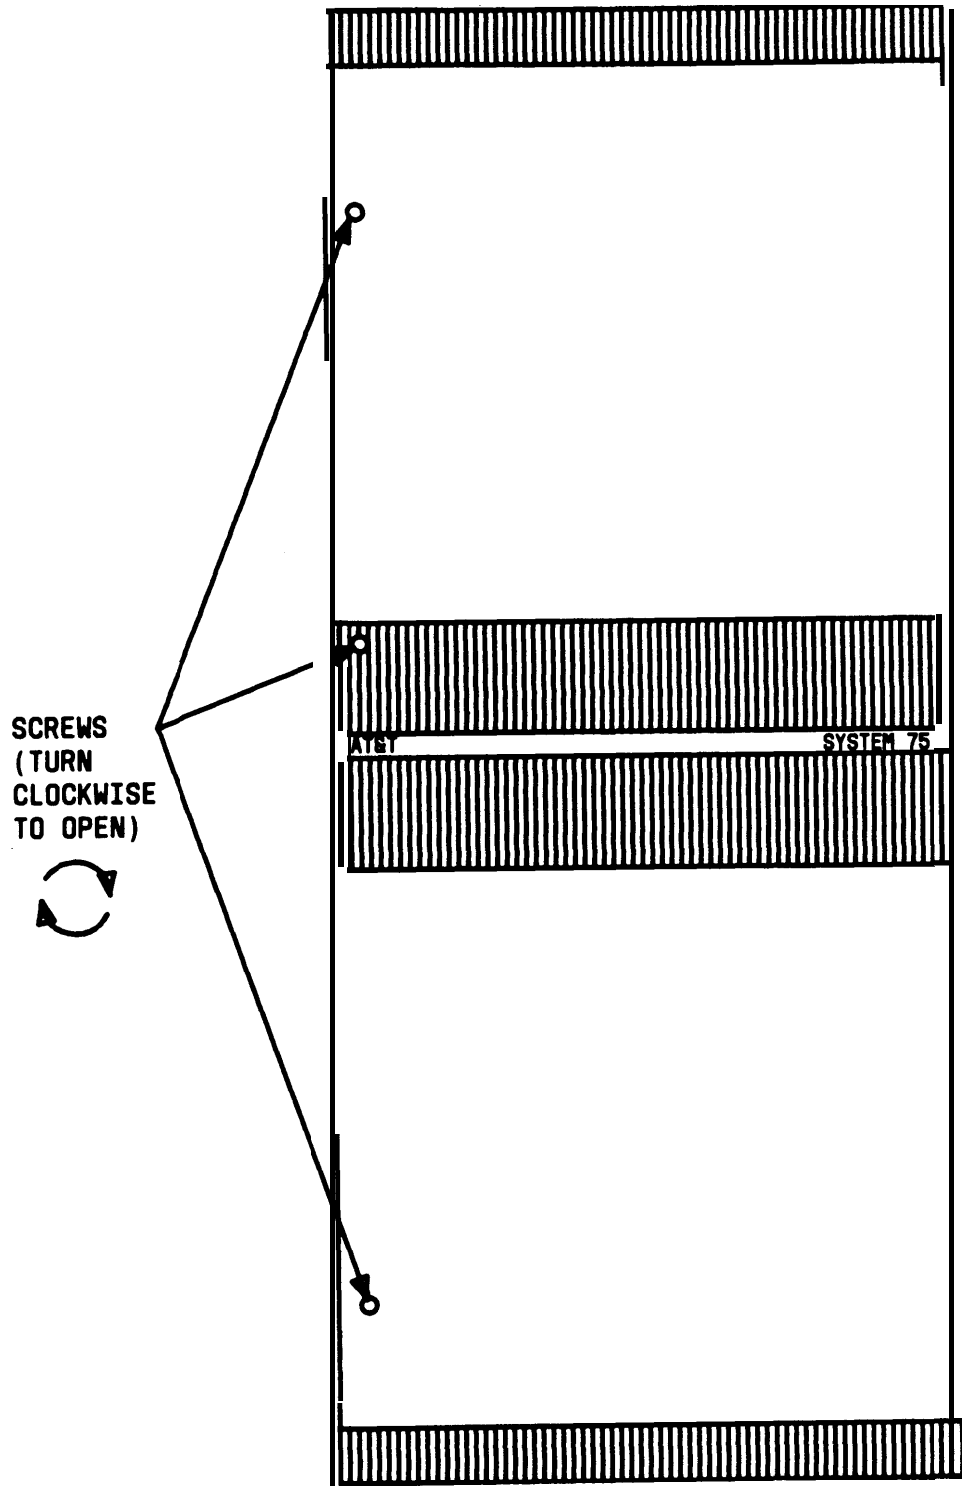

Figure 14. Location of 5-Carrier Switch Cabinet Door Latches
5. Use a No. 10 slot screwdriver to turn clockwise the screws located on door to release latches and open cabinet door (see Figure 14).